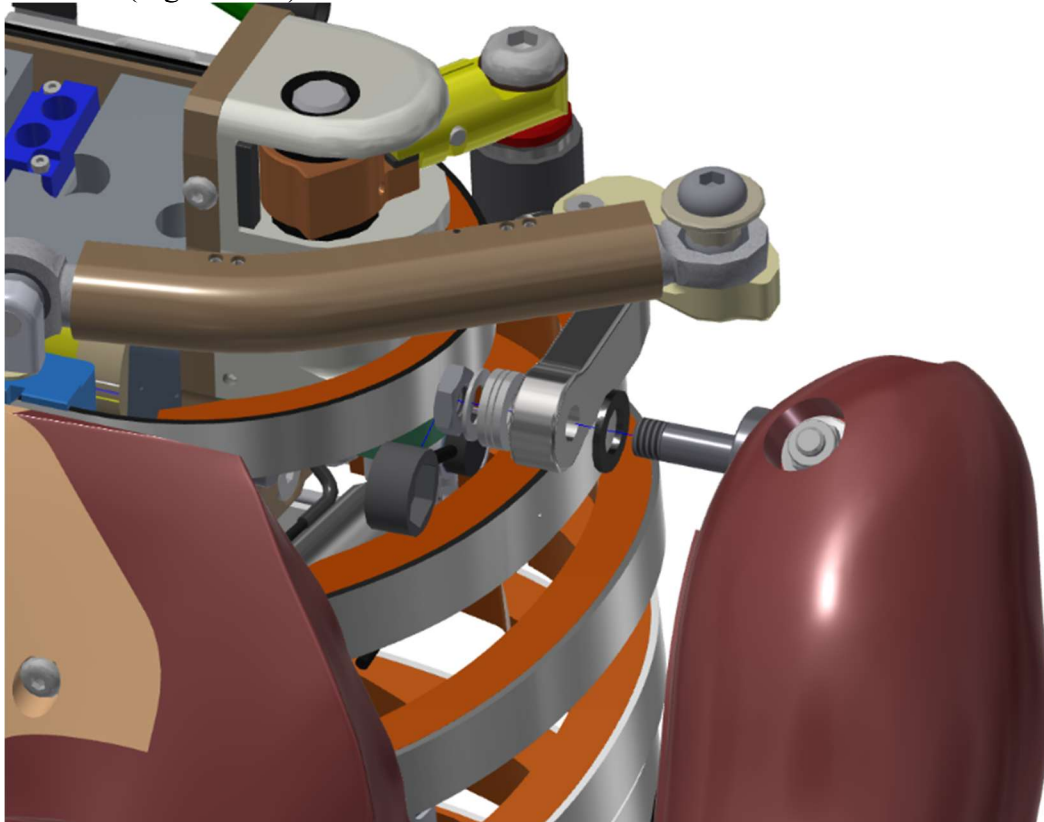

Figure 11-4. Remove the Shoulder Clevis (483-3504) from the Lower Scapula (474-3505-1,2)
- 11.2.1 Remove the Shoulder Clevis (483-3504) from the Lower Scapula (474-3505-1,2) by loosening the M8 X 1.25 Hex Lock Nut on the medial side of the arm (Figure 11-4).